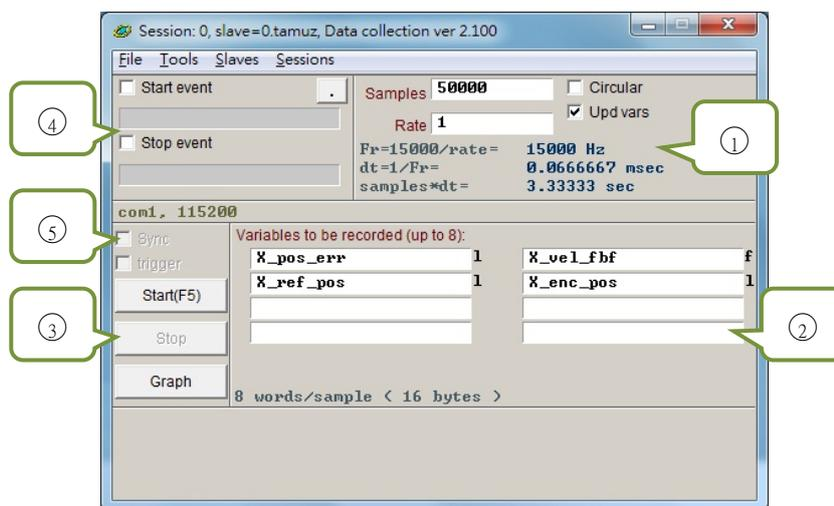

Figure 6.4.1.1 Data collection
To improve the accuracy of data collection, “Sync” (trigger the auto collection instantaneously) in Figure 6.4.1.1 ⑤ provides more flexible and more real-time data capture than the conditional auto collection. Users can add the program fragment with the title labeled “_RecordSync” to PDL program, and set the start event of data collection. Once this event is triggered, “Data collection” starts to collect the data. Operational steps are given as follows.
Step 4. Check “Sync” in Figure 6.4.1.1 ⑤.
Step 5. Click the “Start” button in ③. The program starts to execute the “_RecordSync” function and waits for the trigger event being established. For example, when the status of I9 is changed from False to True, the data collection starts to capture the data. If I9 is repeatedly triggered, it collects the record data of last trigger.